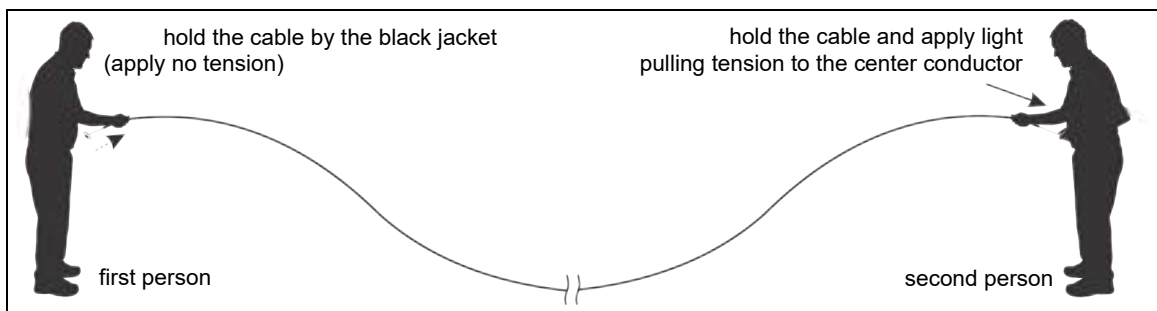

Figure 18: FlexZone cable conditioning (part 2 cable flossing)
2. When the second person observes that the center conductor has been pulled to its limit, the second person waits 10 seconds and then applies light pulling tension to the center conductor while holding the cable by the black jacket with the other hand (see Figure 18:). The first person holds the cable by the black jacket and allows the center conductor to move freely (no tension applied). The second person stops pulling when they encounter an increase in resistance or the center conductor can be pulled no further.